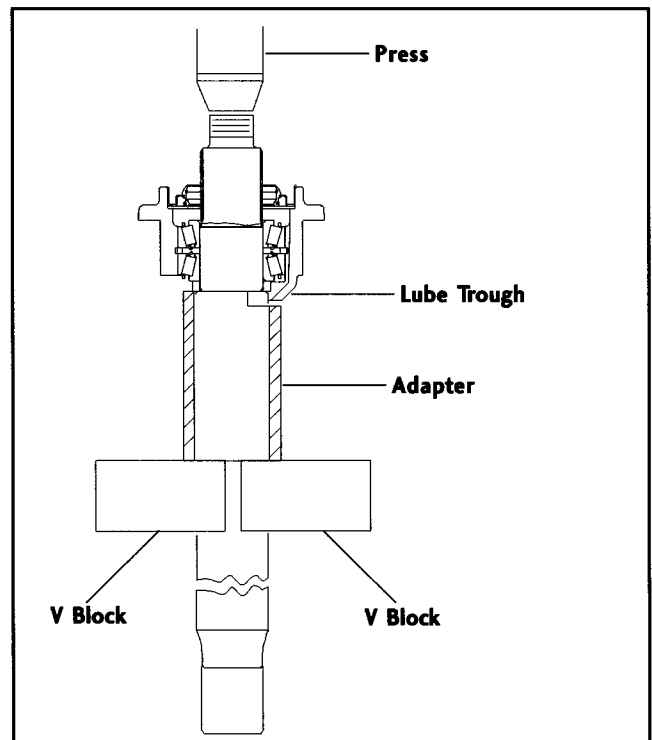

Figure 11
6. Position the adapter onto the output shaft assembly. Taking care not to damage threads, press the output shaft out of the bearing assembly (See Figure 11).